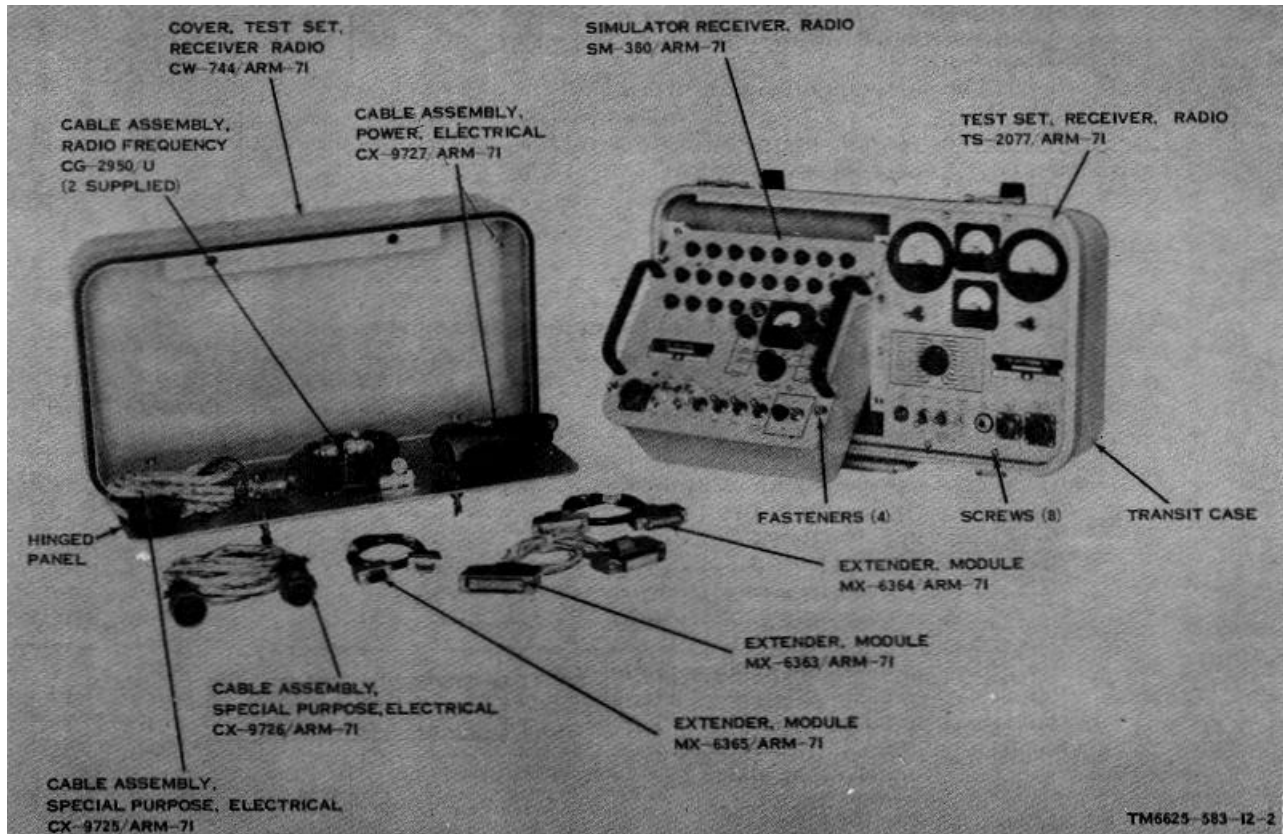

Figure 1. Test Set, Receiver, Radio AN/ARM-71.
This manual describes Test Set, Receiver, Radio AN/ARM-71 (fig. 1) and covers its operation and the operator's and organizational maintenance. The maintenance includes preventive maintenance checks and services, cleaning, preservation, and replacement of indicator lamps.
4. Purpose and Use (fig. 1)